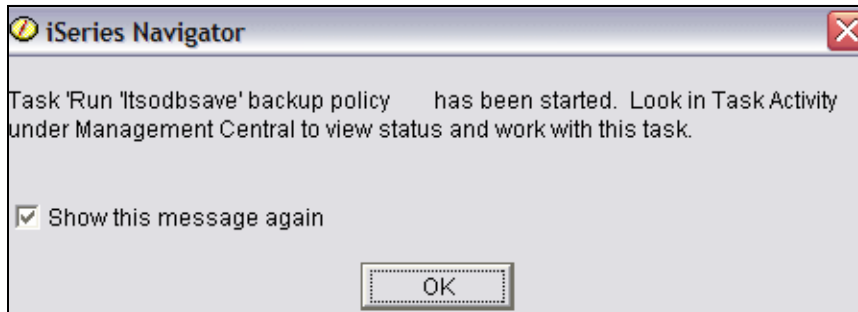
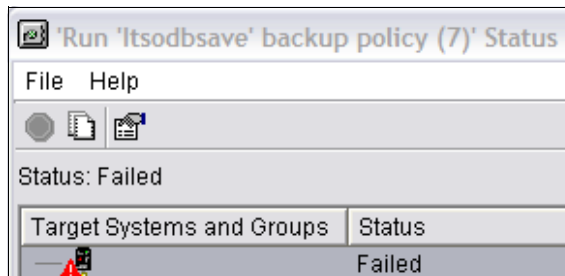
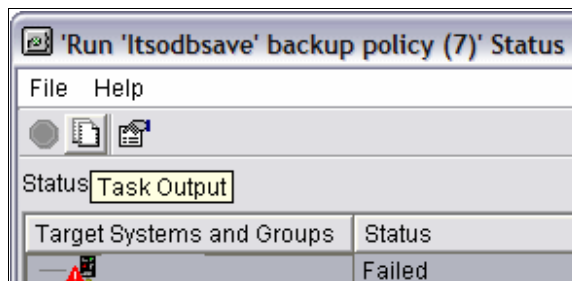

Figure 8-6 Status pop-up
Figure 8-7 Status failed
Figure 8-8 Task icon
Pop-up windows also appear, such as the ones shown in Figure 8-6 and Figure 8-7.
7. Figure 8-7 shows that the job failed. To determine why, click **Task output** button, as shown in Figure 8-8.